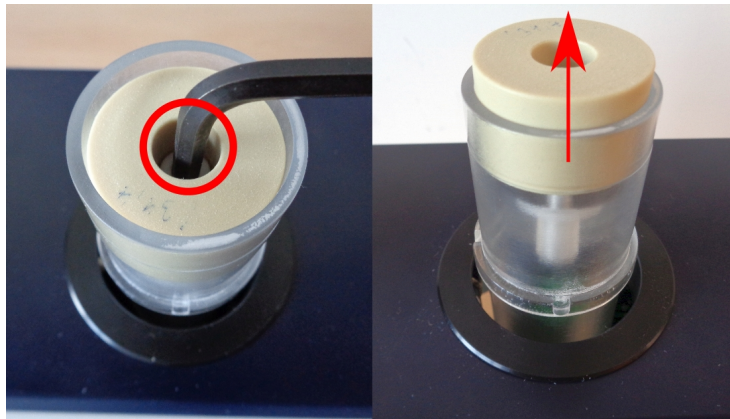

Figure 3: Plastic disk
- Unscrew the plastic screw using 5mm hex key. Screw is marked by red circle in Fig. 3. Then remove the plastic disc from the tube. You can clean it in warm water with drop of detergent.